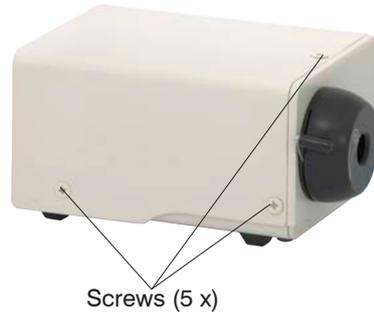

Fig. 9 Side view with screws
- ➡ Remove the 5 screws from the FOT Endlight Xenon light source with a 2 screwdriver, see Fig. 9.